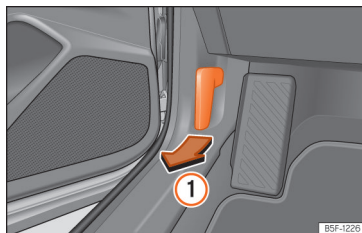

Fig. 204 Release lever in the driver's footwell area.
- Open the door and pull the lever that is underneath the instrument panel »» **Fig. 204** ①.